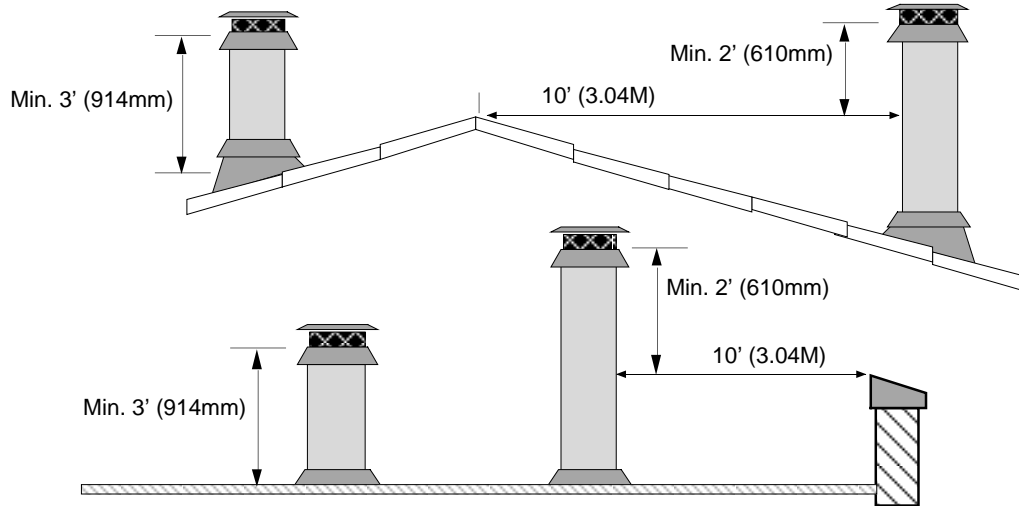

Figure 5
- Must terminate at least 3' above the roof **and** at least 2' above any portion of the roof within 10' (see Figure 5).